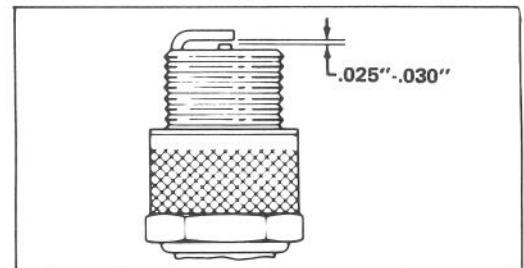

Figure 25
REPLACING SPARK PLUG (Fig. 25)
3. Set air gap between electrodes of new spark plug at .025-.030 of an inch (Fig. 25). Next, install spark plug in cylinder head. Tighten plug to 15 ft-lb. If torque wrench is not used, tighten plug firmly.